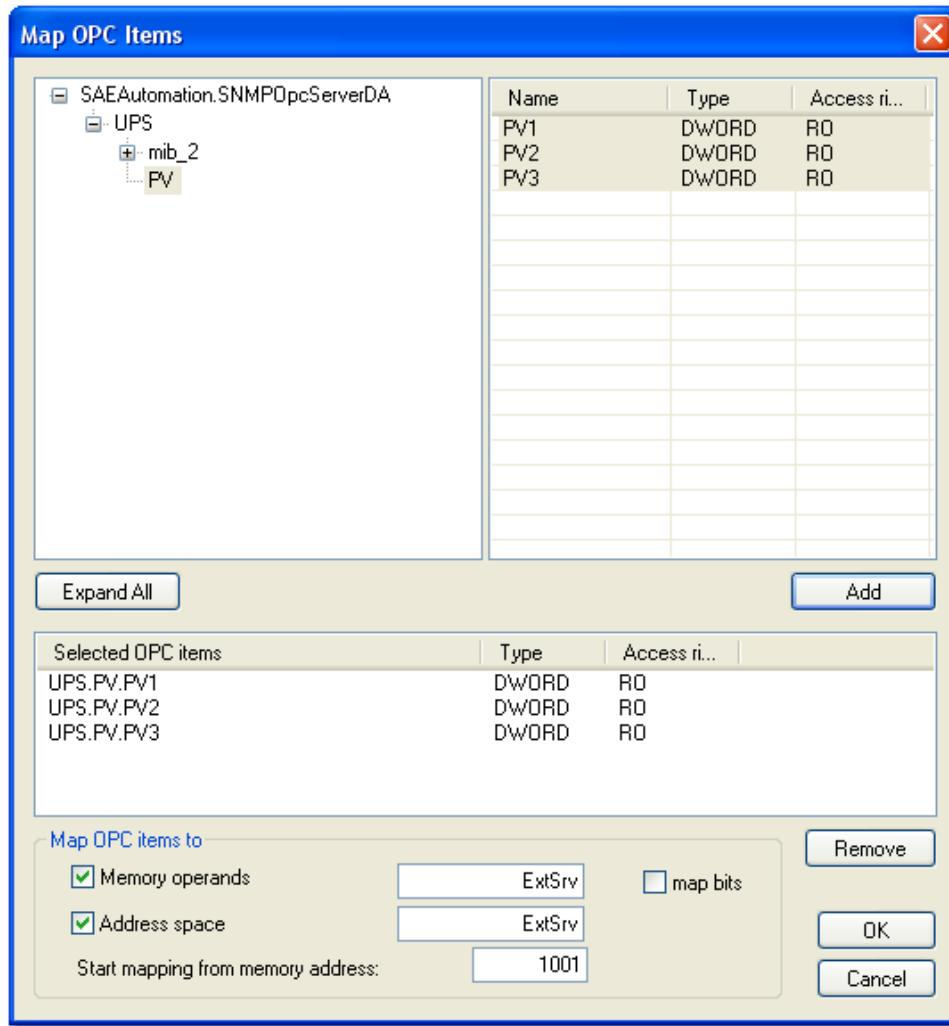

Figure 4: Map OPC Items dialog: Example of mapped OPC items from en external OPC Server.
5. Click on **OK** button (Please see Figure 4).